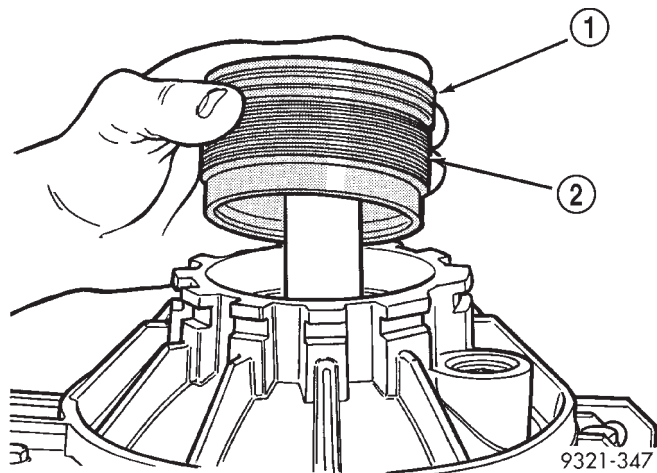

Fig. 408 Outer Adjuster Installation
(28) Screw on outer adjuster and tighten adjuster down finger tight (Fig. 408).